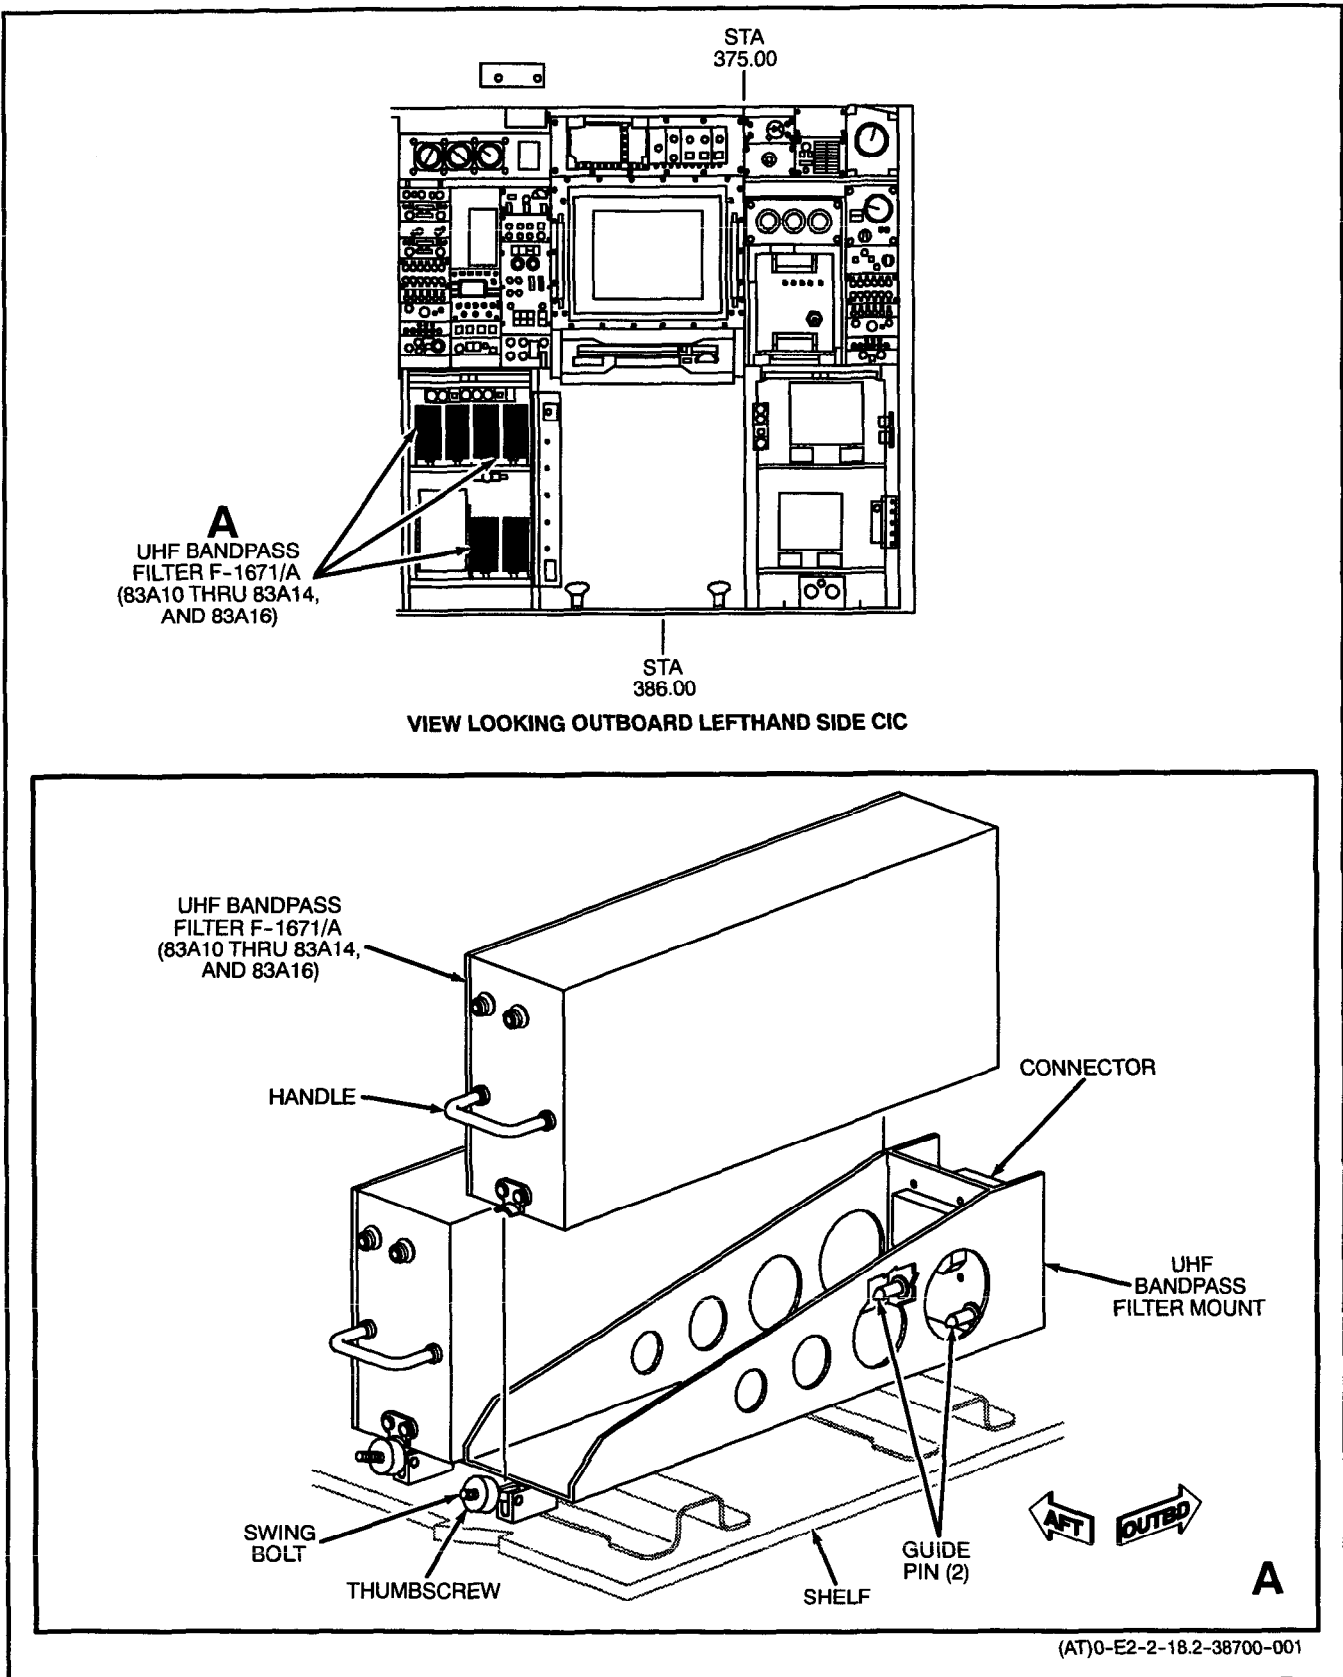

Figure 1. Removal and Installation of UHF Bandpass Filter F-1671/A (83A10 thru 83A14, and 83A16)
**1. REMOVAL.** (Figure 1.)
## 2. INSTALLATION. (Figure 1.)